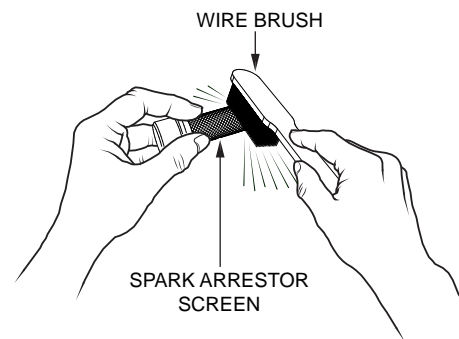

Figure 38. Cleaning The Spark Arrester
2. Remove the 5 mm screw (4) from the muffler protector, then remove the muffler protector.
3. Carefully remove carbon deposits from the spark arrester screen (Figure 38) with a wire brush